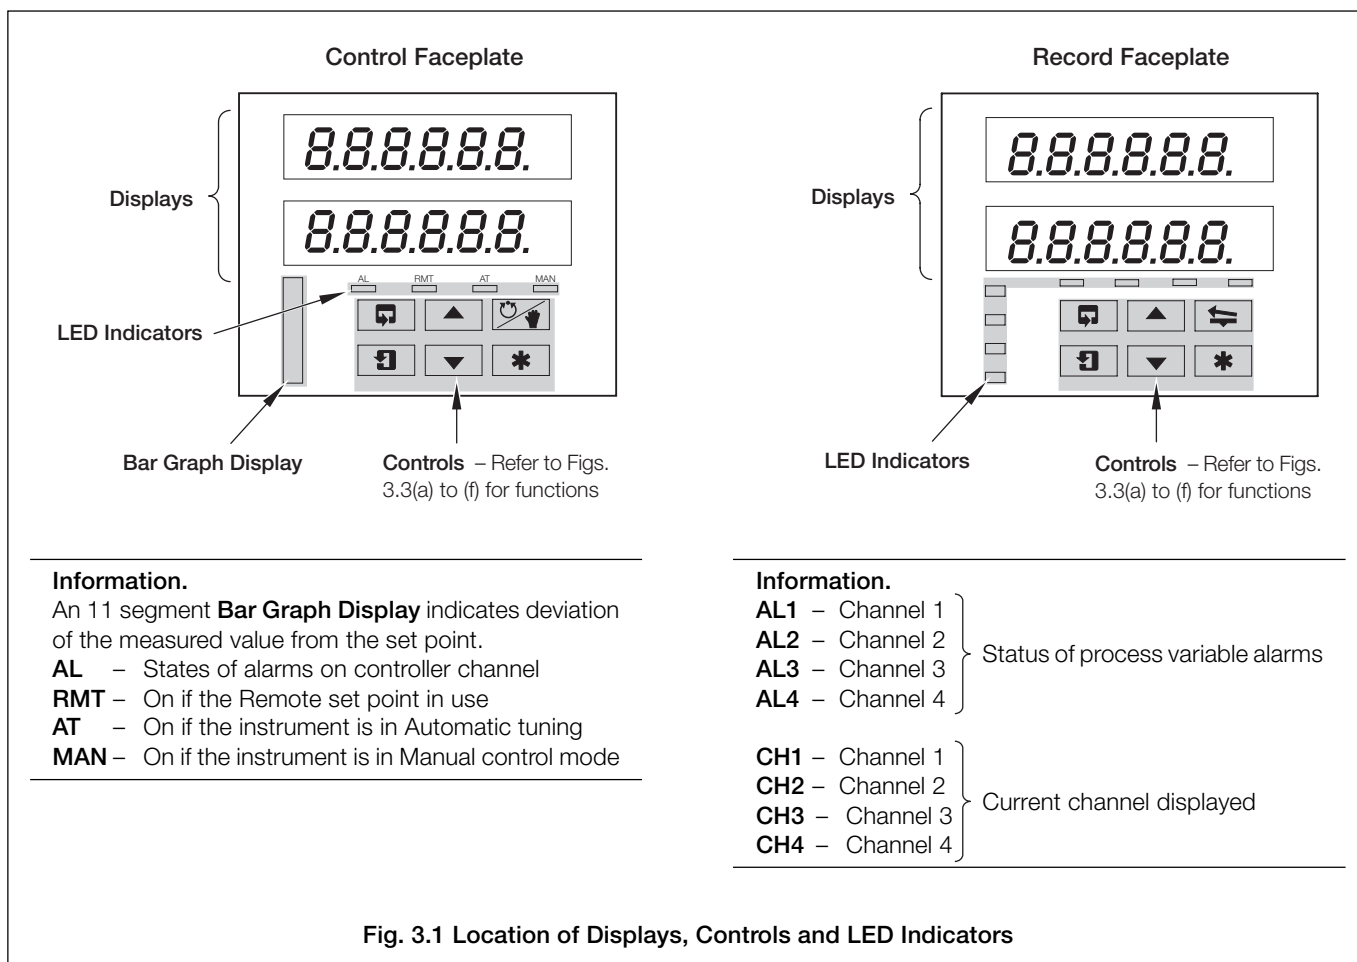

Fig. 3.1 Location of Displays, Controls and LED Indicators
The displays, LED indicators and operation/programming controls are located on the faceplates on the front panel of the instrument – see Fig 3.1.
3.1 Displays and LED Indicators – Fig. 3.1
Alarm and Channel states are indicated by separate LEDs on the front panel faceplate(s) – see Fig. 3.1.